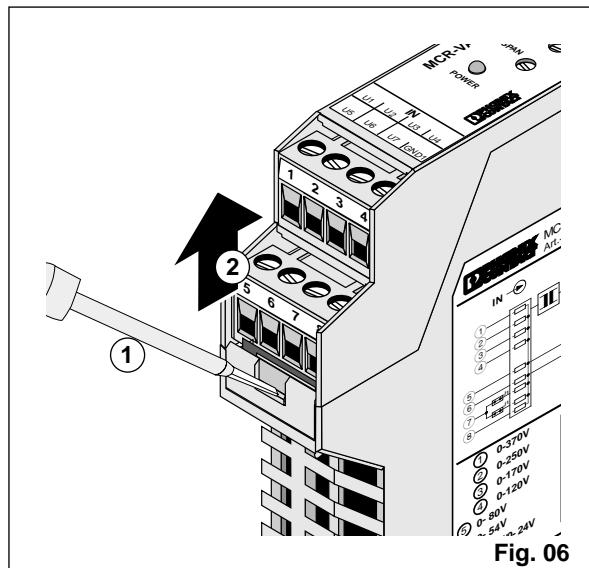

Fig. 06
5.1. Opening the Device (Fig. 06)